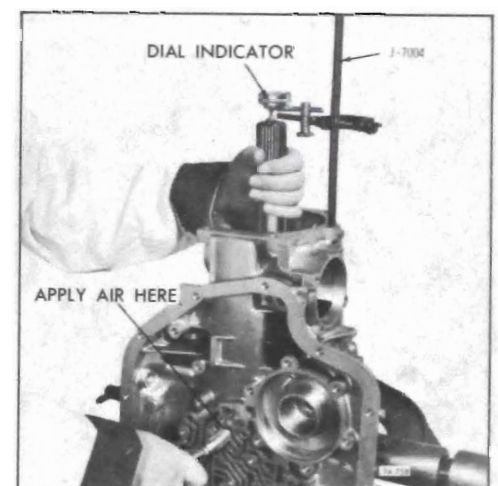

Figure 76-758
15. Check rear end play as follows: See Figure 76-758.
a. Install J-7004 into an extension housing attaching bolt hole. See Figure 76-758.